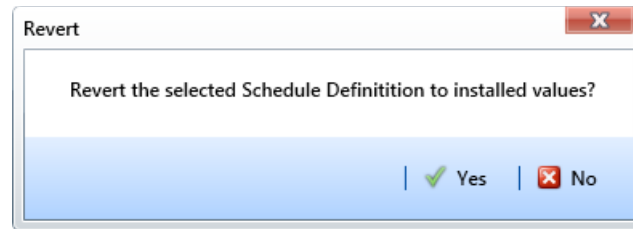

Figure 9-11. Revert Message
- Click **Revert** then click  **Yes** when the *Revert* message displays (Figure 9-11).